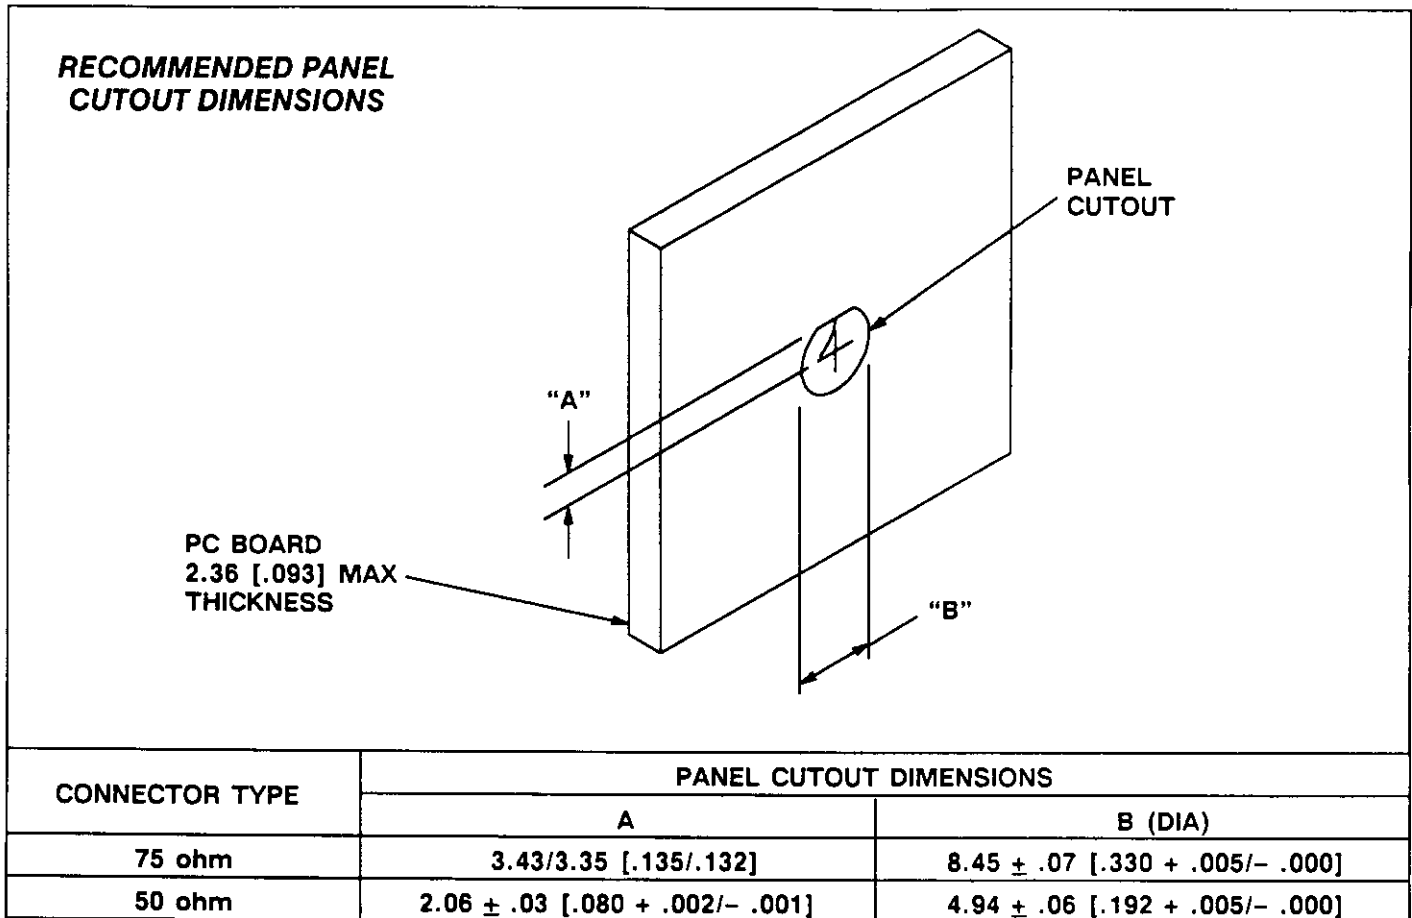

Fig. 2
1. Punch D-shaped hole into panel using the appropriate panel cutout dimensions provided in Figure 2.